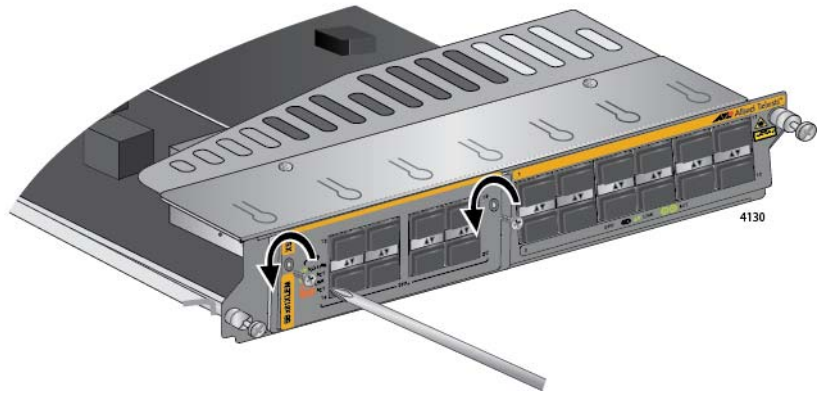

Figure 183. Removing the Screws from the Expansion Module
3. With a Phillips-head screwdriver, remove the two screws that secure the expansion module to the line card. Refer to Figure 183 on page 310.